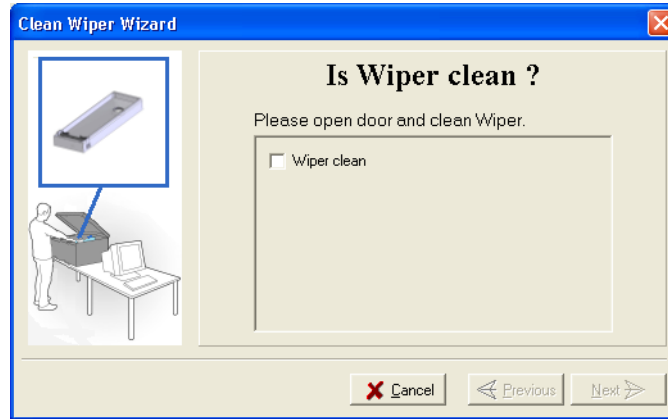

Figure 7-22: Wiper Cleaning procedure—steps 7–10
10. In the wizard screen ("Is wiper clean?"), select the confirmation check box (see figure 7-22) and click Next.